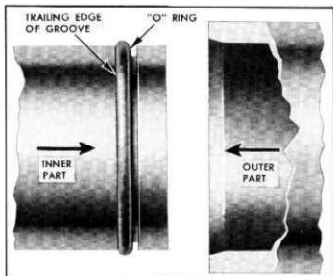

Fig. 74—Installing "O" Ring Seals
4. Before the outer part is placed over the inner part and "O" ring seal, the "O" ring should be in full contact with the side of the groove which is last to enter the outer part (fig. 74). This position may be obtained by inserting a smooth-edged flat tool between the "O" ring and leading edge of the groove and running the tool circumferentially around the groove.